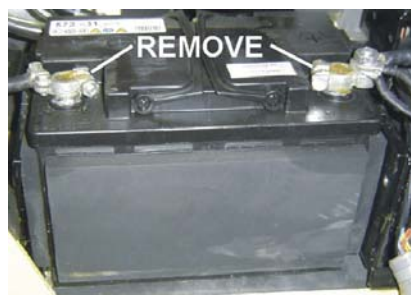

Figure 6. Battery Removal
- Disconnect the positive (+) and negative (-) battery cables (Figure 6) from the battery terminals. Remove the battery from the unit.